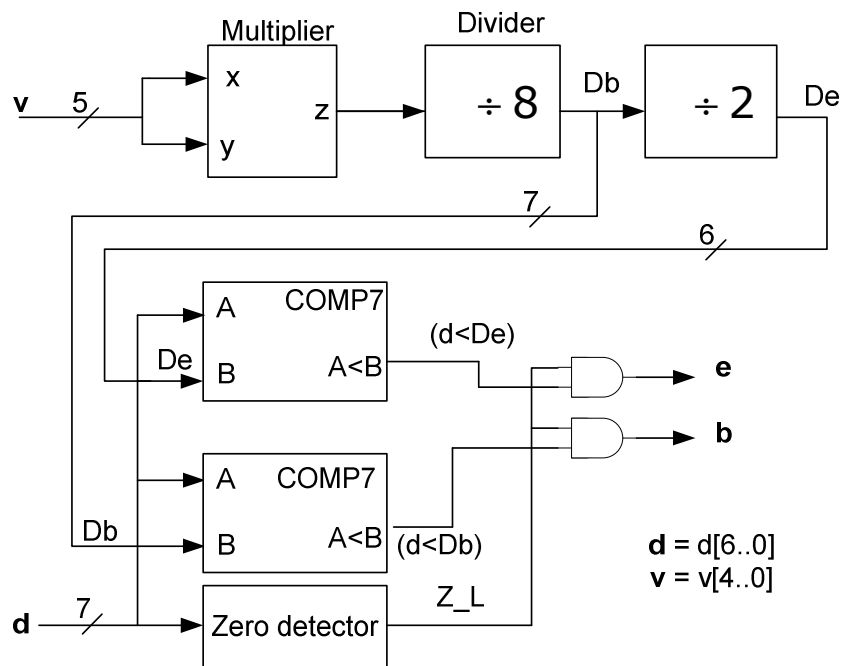

Fig. 3 The block diagram to calculate the braking signals
The block diagram in Fig. 3 illustrates for academic purposes a very simple approximation of how to solve engineering problems by means of digital circuitry. A digital 5 X 5 combinational multiplier computes the squared velocity and the dividers obtain the safety distances which will be compared to the measured distance to the obstacle. If d = '0', represents no obstacle detected. In this example, a 5 bit vector for the car velocity (0 to 31 m/s) and a 7 bit vector for the distance (1 to 127 m) have been used.
- f)** Deduce and explain the way the binary dividers in Fig. 3 can be rapidly implemented (concept of shifter). Implement a **div2** and a **div8** block using gates
- g)** Deduce and build the zero detector in Fig. 3
- i)** Deduce and explain how a 7-bit comparator COMP7 can be produced expanding 1-bit comparators COM1 (see Fig. 3). Implement the circuits using logic gates.